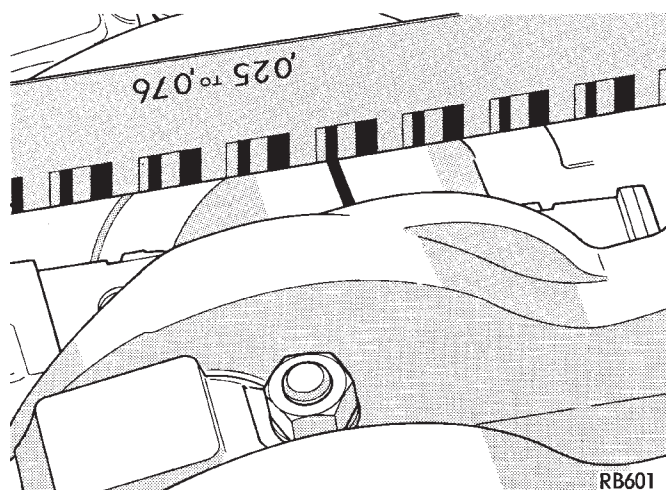

Fig. 7 Measuring Bearing Clearance with Plastigage
(1) Remove oil from journal and bearing shell.
(2) Install crankshaft.
(3) Cut plastigage to same length as width of the bearing and place it in parallel with the journal axis (Fig. 7).
(5) Carefully remove the bearing cap and measure the width of the plastigage at the widest part using the scale on the plastigage package (Fig. 7). Refer to specification (Fig. 5) for proper clearances. If the clearance exceeds the specified limits. Replace the main bearing(s) and if necessary have the crankshaft machined to next undersize. Also see Measuring Main and Connecting Rod Bearing Clearance in Standard Service Procedures.